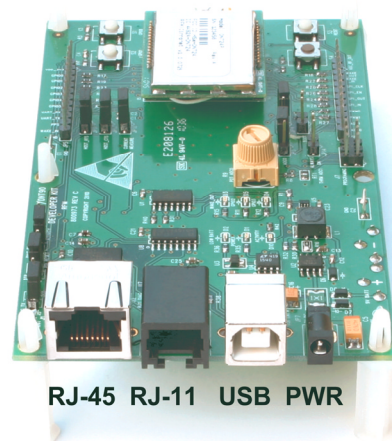

Figure 8.4.3
2. As shown in Figure 8.4.3, there are three serial connectors and a power connector on the end of each interface board. The RJ-45 connector provides an RS232 interface to the DNT24 main serial port. The USB connector provides an optional interface to the radio's main serial port.